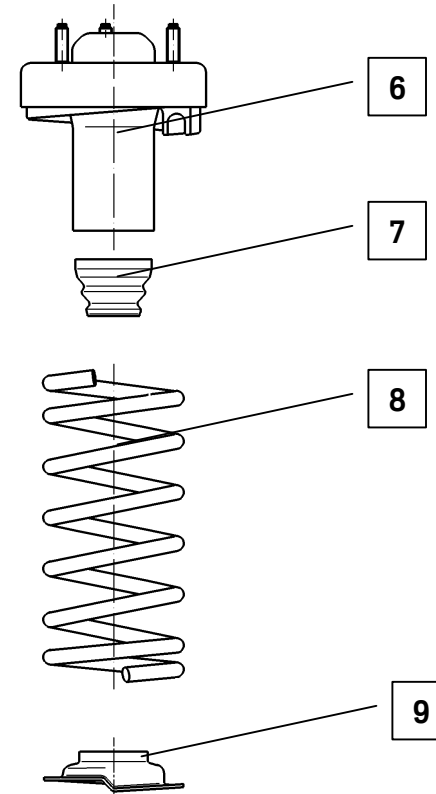

Figure 1
- B. Remove shock and spring unit from vehicle, following all procedures in the vehicle manufacturer's service manual. Note position of studs in upper mount (6) relative to lower mount bearing (for re-assembly).
- D. Refer to Figure 1 to identify which original parts must be re-used.